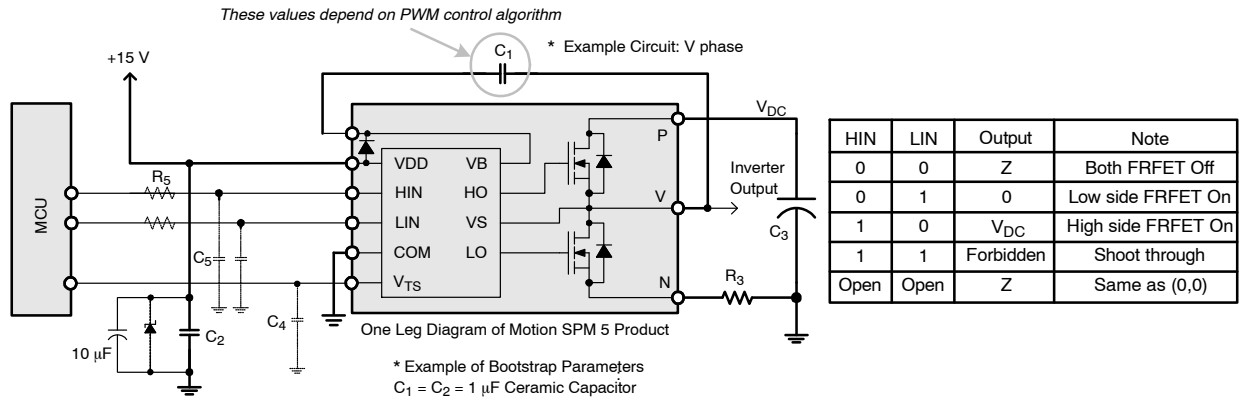

Figure 3. Recommended MCU Interface and Bootstrap Circuit with Parameters
- Source terminal of each low-side MOSFET is not connected to supply ground or bias voltage ground inside Motion SPM 5 product. External connections should be made as indicated in Figure 3.